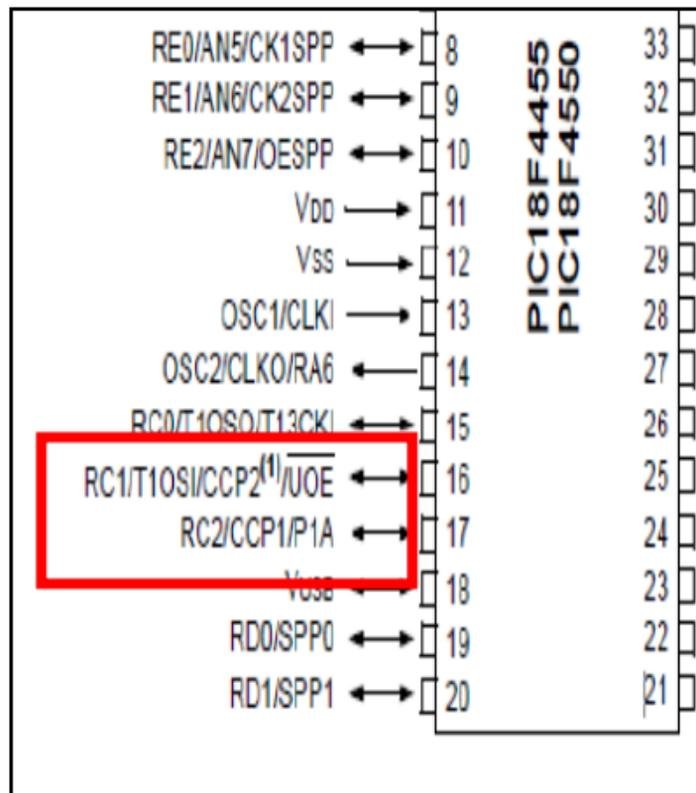

Figure 4.11: Common setup for motor load using PWM modules
- The pins used for the PWM module are shown in Figure 4.11 which are CCP1 and CCP2. The pins' name means compare and capture.